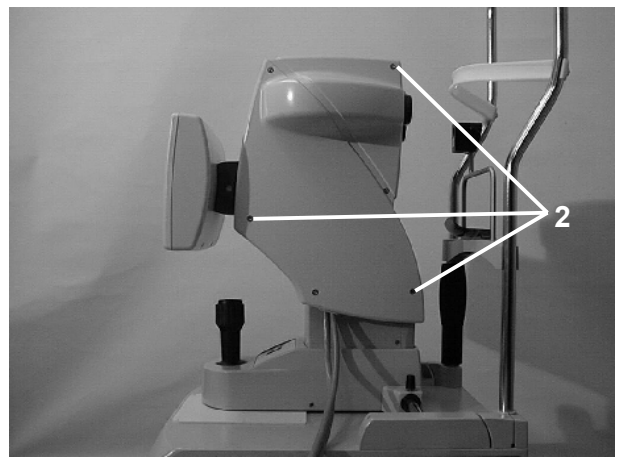

Fig. 10b
- Remove screws ((2) Fig. 10b) on the other side and then the cover.